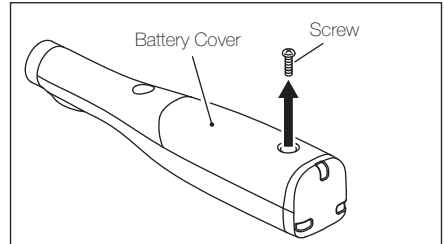

Fig. 12
3. Remove the screw fixing the battery cover with a Phillips screwdriver. (Fig. 12)